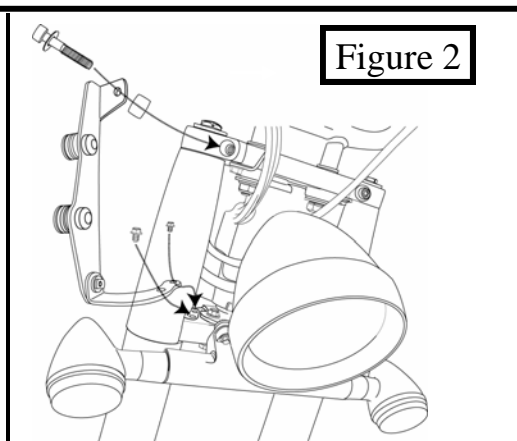

Figure 2
5. Using a 10mm and 13mm socket, loosely install the lower bracket using the new bolts and washers provided. Next, slip the spacer behind the upper bracket mounting hole and insert the new socket head cap screw with new washer through the bracket, through the spacer and loosely tighten all three bolts. (see figure 2) repeat steps 3 - 5 on the Clutch side. *Note: You will tighten these bolts after the windshield is installed on to the bushings.*